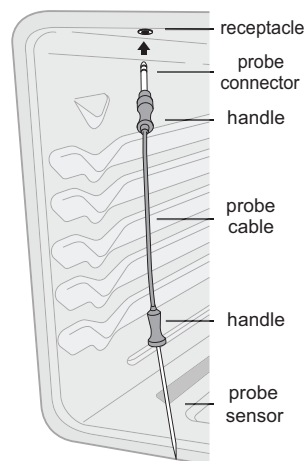

Figure 25: Probe receptacle insertion
The probe receptacle is located at the top of the oven cavity as shown in Figure 25.
Handle the meat probe carefully when inserting and removing from food or probe receptacle. Do not use kitchen utensils, such as tongs, to pull on meat probe cable when inserting or removing from food or receptacle. Use the provided handle, as shown in Figure 25. To avoid possibility of burns after cooking, carefully unplug meat probe using a pot holder to protect hands.
- 2. Plug the meat probe into the probe receptacle located on the top of the oven cavity (Figure 25).